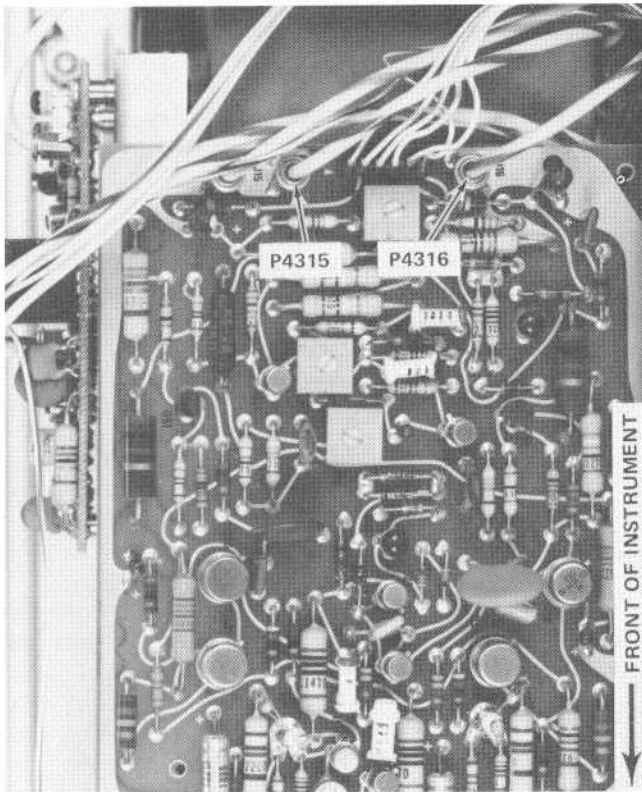

Fig. 3-5. Location of P4315 and P4316 on A43, Horizontal Output board.
- a. Disconnect coaxial connectors P4315 and P4316 from the Horizontal Output board (see Fig. 3-5).